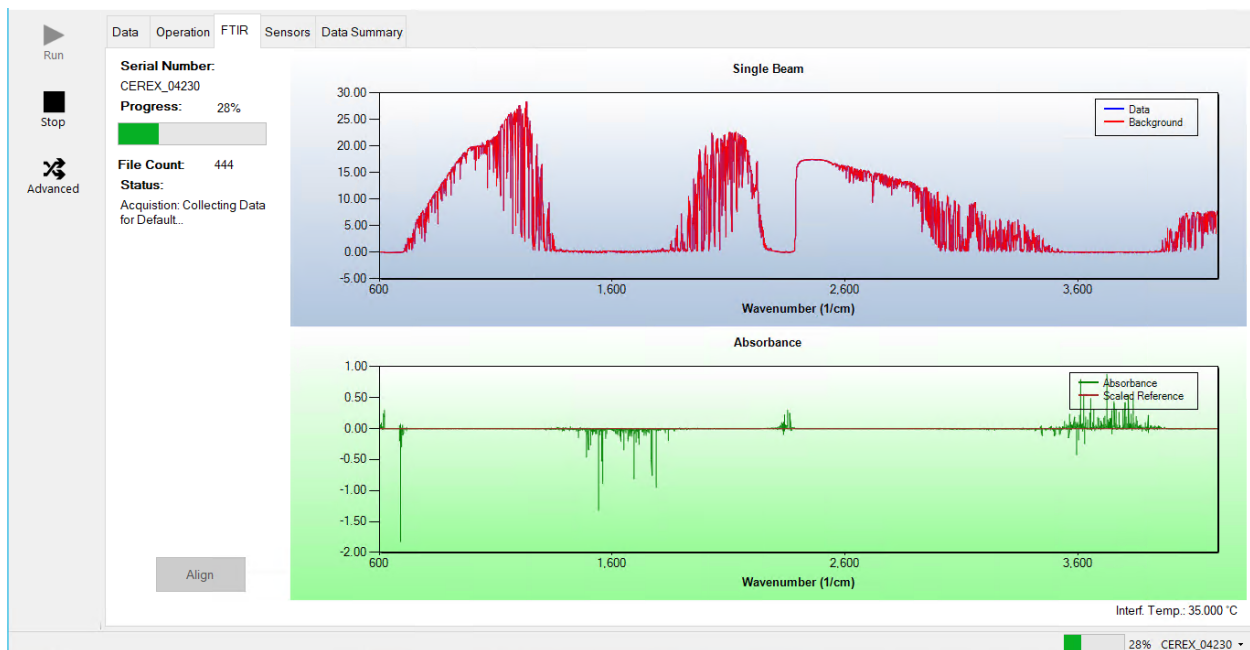

Figure 2. Screenshot showing the FTIR tab of the CMS software. Note that the Align and Run buttons are grayed out because the instrument is in run mode.
1. Start the CMS software (if not already initiated). You should see a window similar to the one shown in Figure 2.